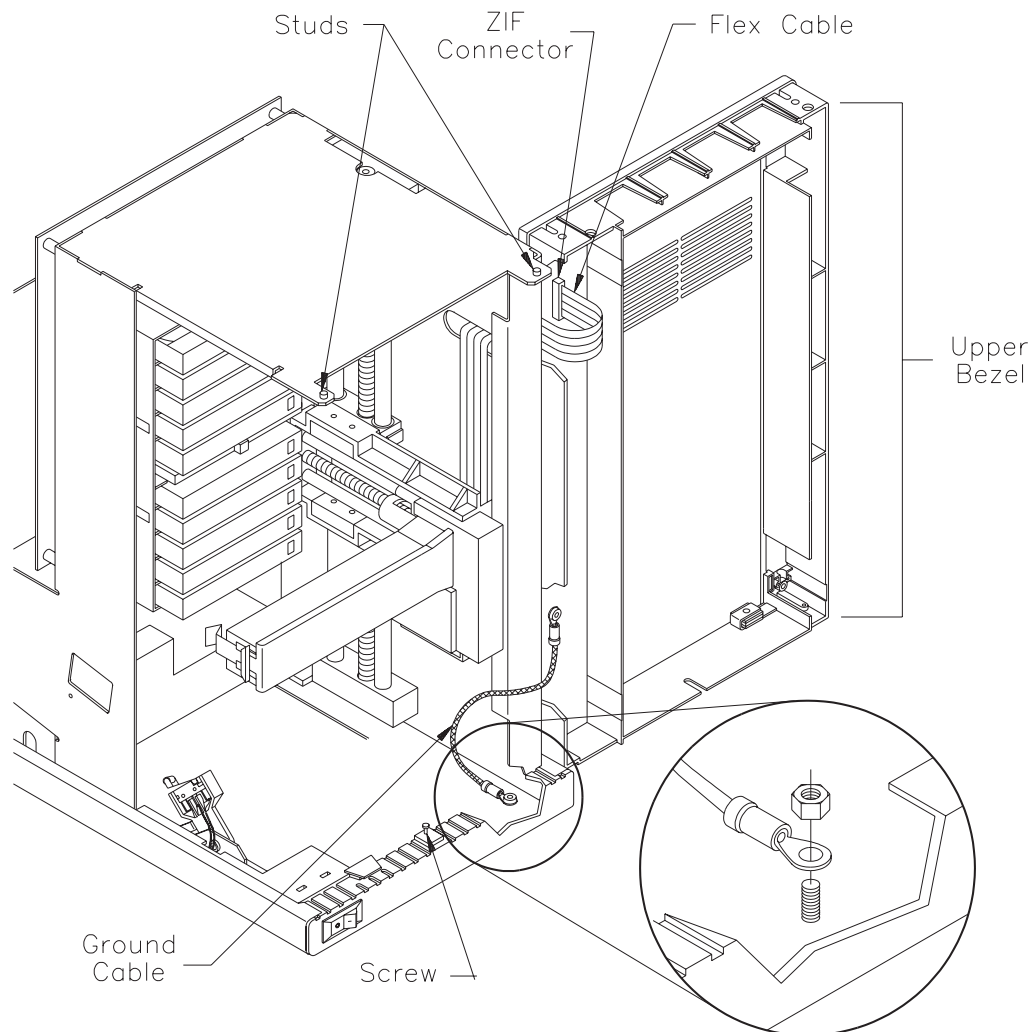

Figure 9-1 Upper bezel removal
3. Locate the upper bezel, as shown in Figure 9-1. Using a T-10 TORX driver bit, loosen (but do not remove) the single screw located on the inside lip of the door threshold, which is at the base of the upper bezel.
The upper bezel is attached to the CHS chassis by a flat flex cable; and in some units, the bezel is also attached by a ground cable at the bottom. (See Figure 9-1.) Be careful not to damage these cables when you slide the bezel off the chassis. Do not let the bezel hang from the flat flex cable.
5. Disconnect the flex cable, which is attached to the ZIF connector on the top of the VDISPLAY card behind the LEDs, as shown in Figure 9-1. To do this, grasp the tab on the top and bottom of the connector with your thumb and forefinger. Gently pull on the connector clip until the cable slides away from the connector.
6. If the upper bezel is also attached to the base of the CHS by a ground cable, detach this cable from the base. To do this, use a  $\frac{5}{16}$ -inch wrench to remove the nut from the ground stud, as shown in Figure 9-1, and slide the cable off of the stud.
1. If the CHS has a ground cable attached at the base, attach it to the upper bezel. To do this, position the cable as shown in Figure 9-1 and replace the screw. Using a T-10 bit, tighten the screw to 12.0 inch-pounds (13.8 kg-cm) of torque.